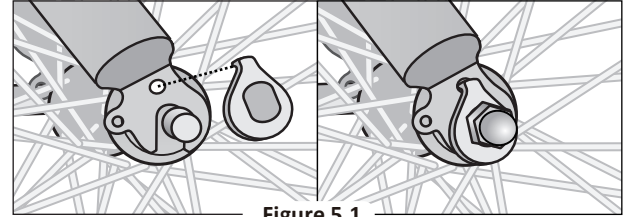

Figure 5.1
- 2 Insert the hook washer onto the axle with the hooked end inserted into the small hole on the fork dropout. **Figure 5.1**